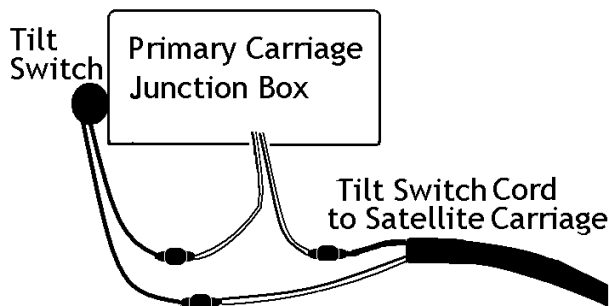

Figure 31 - Primary Carriage Junct Box and Tilt Switch Wiring
- 1 white wire with female spade from primary carriage junction box. **Figure 31.**
- 1 black wire with male spade from primary carriage tilt switch. **Figure 31.**
- Remaining black wire with male spade from primary carriage tilt switch. **Figure 31.**